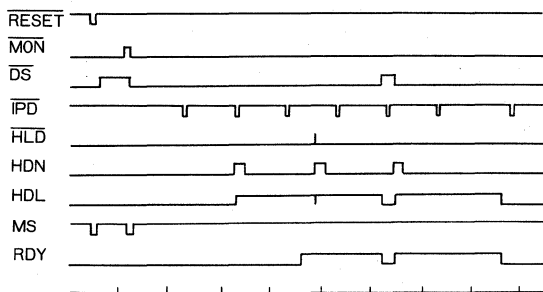

Fig.17 吸引タイプ
- (3) HEAD LOAD/(AUTO LOAD) (Table4, Fig.17, 18参照)